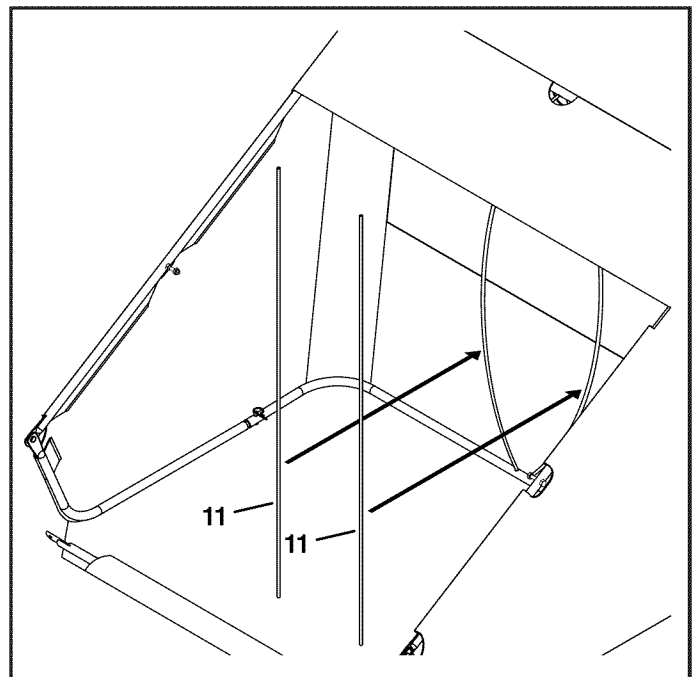

FIGURE 12
STEP 12: (SEE FIGURE 12)
- Insert the hopper support rods (11) into the holes of the upper hopper tube. Then, flex and insert the rods into the holes in the bottom rear hopper tubes.